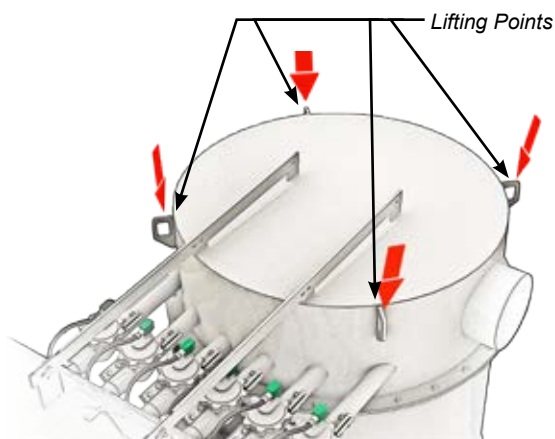

FIGURE 3
1. Move the Kice Pneu-Jet filter to the installation area using proper equipment. Lift only by lugs indicated (see Figure 3).